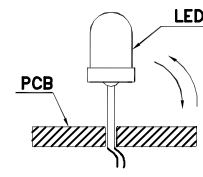

Fig. 8
6. Do not bend the leads more than twice. (Fig. 8)